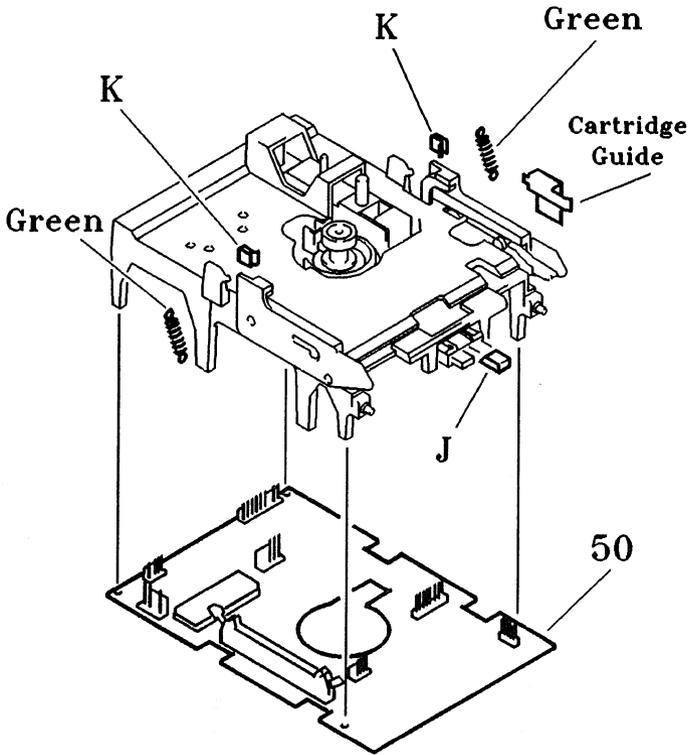

Figure 9-3. Replacement Drive Mechanism
- 3) Refer to the figure below and prepare the replacement drive mechanism by pulling off the eject pushbutton (A).
- 4) Remove the front door flap (B) and spring (C) by spreading the cartridge guides.
- 5) Remove the two coil springs (D) from the eject mechanism.
- 6) Remove the cartridge sensor microswitches (E), and remove the microswitch cable from the cable clip under the mechanism.
7) Now refer to Figure 9-3, and continue constructing the replacement drive mechanism.